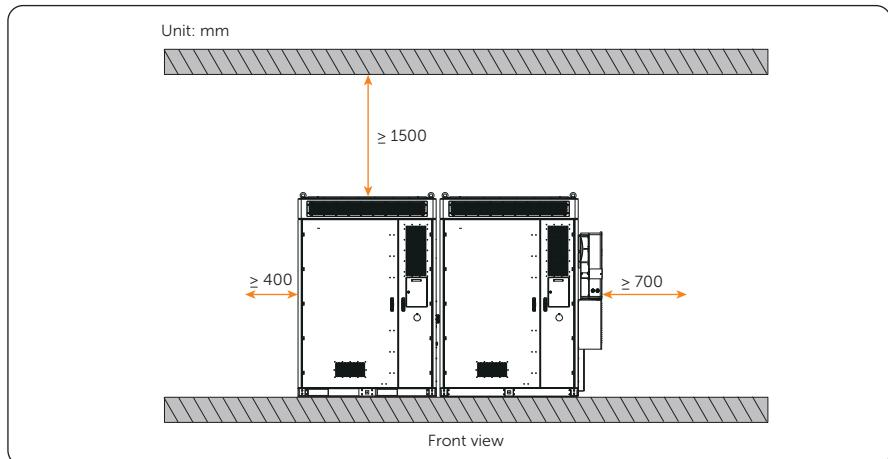

Figure 4-6 2 and more cabinets
- Multiple cabinets (see Figure 4-6 and Figure 4-7)